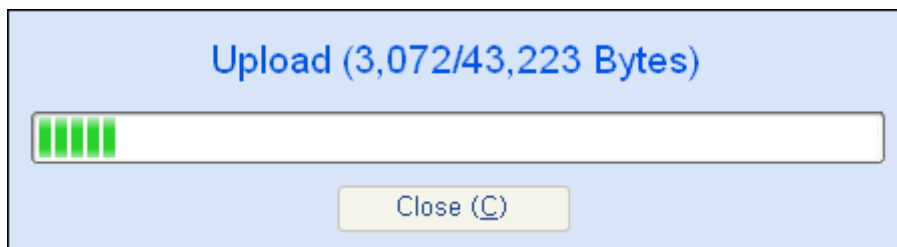

Figure 13. Firmware uploading window
- ⑤ The firmware uploading status will be pop up as shown in Figure 13.